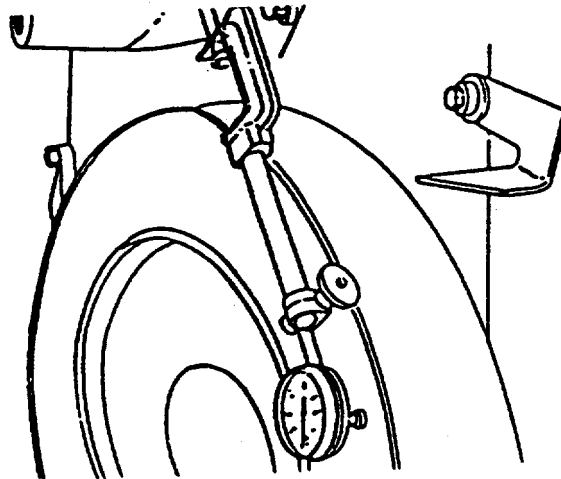

FIGURE 4-46. Vibration Damper Wobble Measurement.
- (4) Move the dial indicator (1) 0.50 inch (13.0 mm) from the outside diameter (FIG. 4-46).